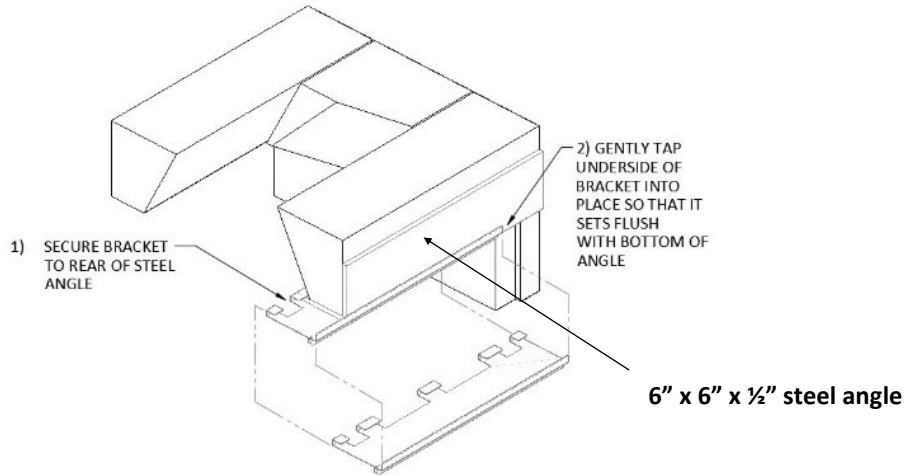

FIGURE 15
- 9) For the 72", 96" and 120" models, once the dampers beams are set into place, secure the Top Glass Bracket A (E-TG2) in place with the bottom of the angle steel as shown (Figure 15). Each model will require a different number of these to be spaced equally across the firebox's opening. Tap them into place utilizing a rubber mallet to prevent marring the finish.